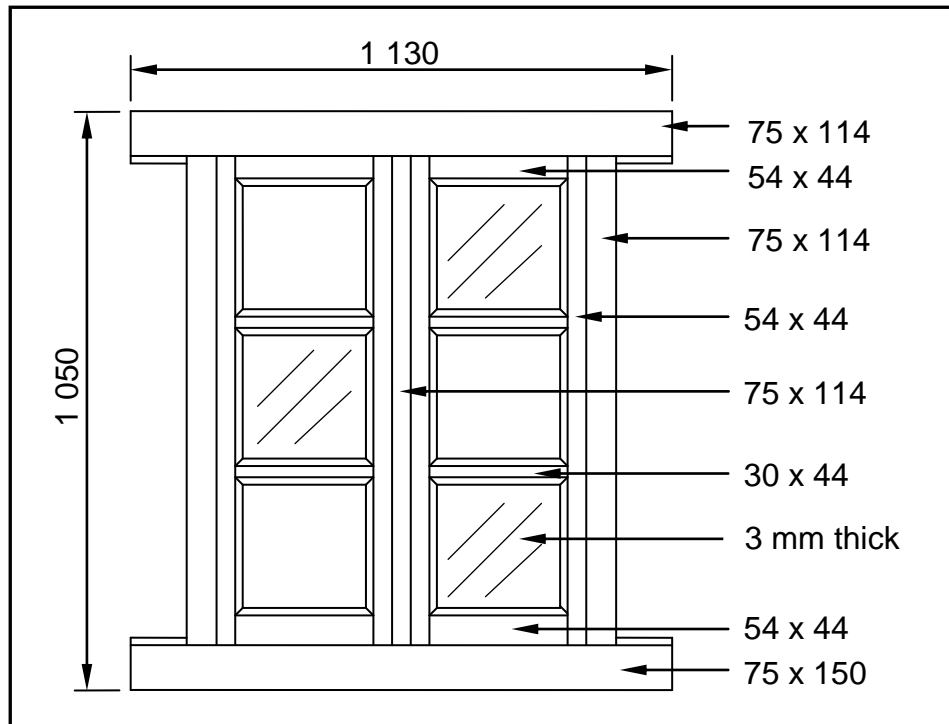

FIGURE 4.1
4.1 FIGURE 4.1 below shows the front view of a double casement window. Study the drawing and complete the incomplete cutting list. Write only the answer next to the question number (4.1.1–4.1.7) in the ANSWER BOOK.